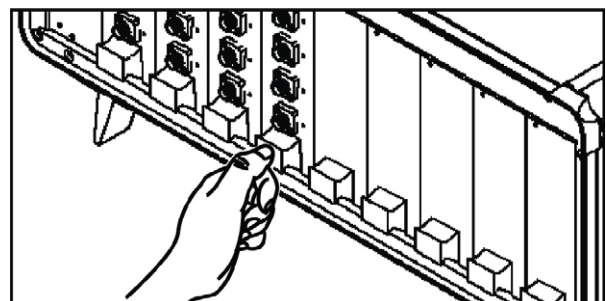

Figure 33 - Press down on the Release Latch
5. Press downward on the *release latch* to unseat the IQS-2800 module from the back connector as shown in Figure 33.